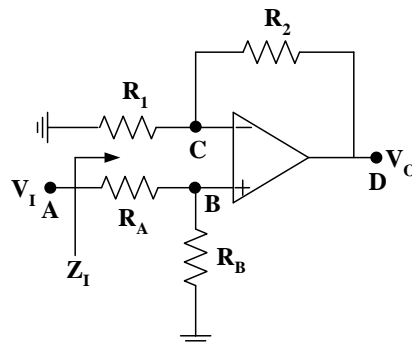

Figure 3. A non inverting amplifier circuit using 741 Op Amp.
2. **DESIGN OF AMPLIFIER CIRCUIT:** Design the non inverting amplifier circuit as shown in Figure 3 (determine the values of the resistors) so that the closed loop gain is $\frac{V_O}{V_I} = \frac{R_2}{R_1} = 5$. The available set of resistance that you can use is 100Ω , $1K\Omega$, $2.2K\Omega$, $3.3K\Omega$, $5.6K\Omega$, and $10K\Omega$. For design safety, take R_2 as high as possible. For proper operation of the amplifier circuit, assume that $R_A = R_1$ and $R_B = R_2$. In your design, if exact value of resistance is not available, choose the nearest one. With your design, set V_I
6. Set up the circuit as shown in Figure 3 using the resistances from your prelab design. Use a +15V DC power supply to terminal 7 and -15V DC power supply to terminal 4 of the Op Amp from the digital trainer board.